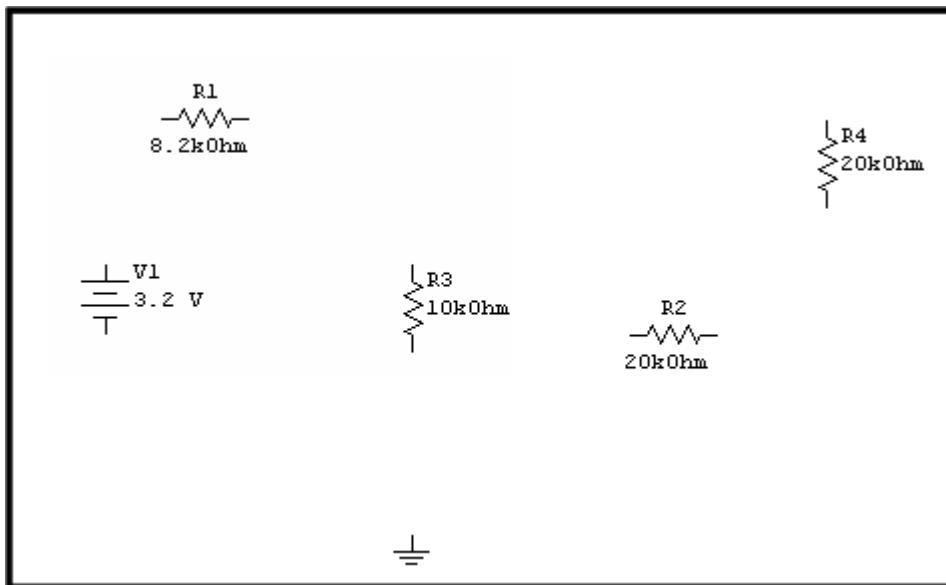

Figure 4: Typical display in MultiSim for Example Circuit
9. Figure 4 shows what your screen might look like at this point.